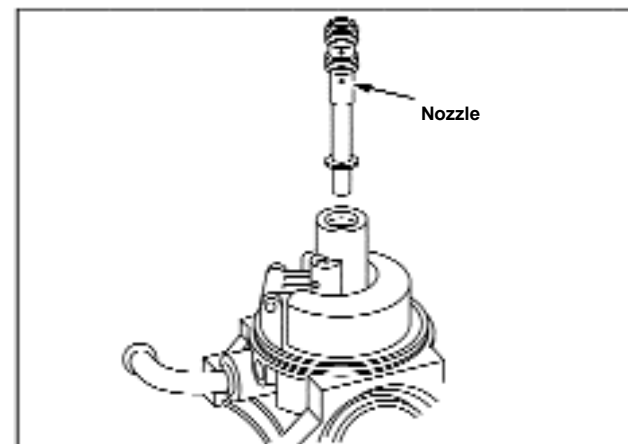

Figure 53 - Installing Jet Nozzle
1. Install main nozzle using until nozzle seats. See Figure 53.